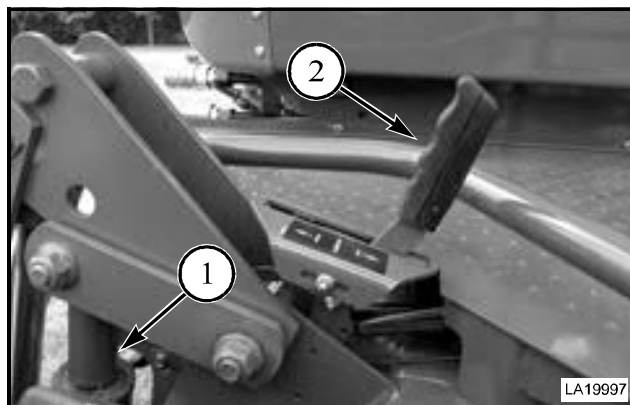

FIG. 21
FIG. 21: To engage the cylinder stops (1), raise the header completely. Move the lever (2) toward the cab and then pull back toward the rear of the machine to engage the cylinder stops. Make sure the cylinder stops are completely engaged in both header lift cylinders.